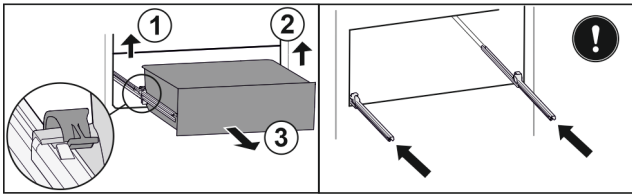

Fig. 132
- ▶ Lift left clamp and simultaneously pull drawer forwards on the left. Fig. 132 (1)
- ▶ Lift right clamp and simultaneously pull drawer forwards on the right. Fig. 132 (2)
- ▶ Remove drawer to the front. Fig. 132 (3)